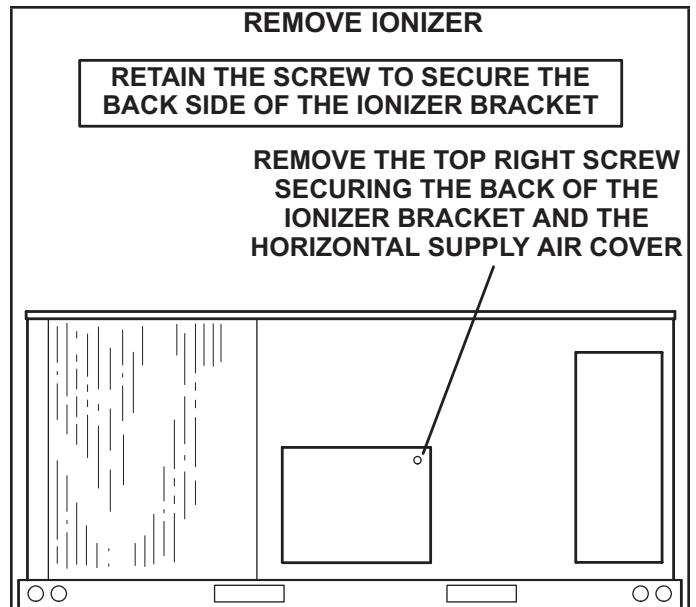

FIGURE 37
- 1 - On the back side of the unit, remove the screw securing the back of the ionizer bracket. See FIGURE 37. Retain the screw to secure the back side of the ionizer bracket.